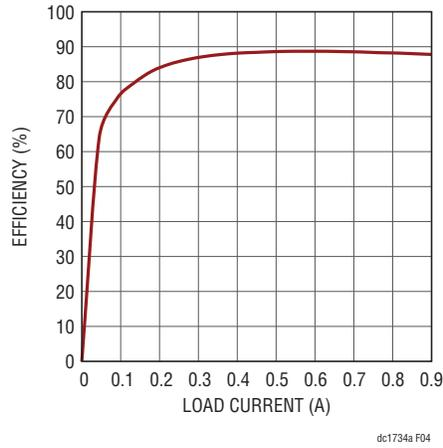
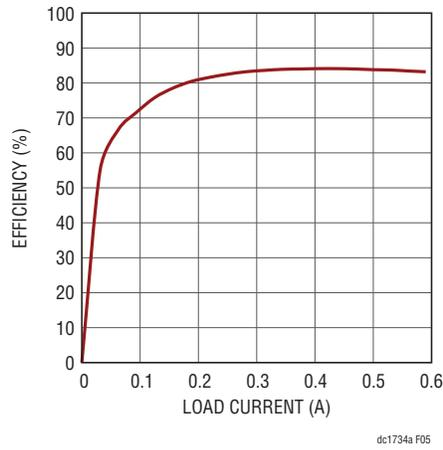

Figure 4. Channel 1 Boost Regulator Efficiency at $V_{IN} = 5V$
Figure 5. Channel 2 Inverting Regulator Efficiency at $V_{IN} = 5V$
4. Once the proper output voltage is established, adjust the load and the input voltage within the operating range and observe the output voltage regulation, ripple voltage, efficiency and other parameters. The efficiency graphs of the two channels are provided in Figure 4 and Figure 5.